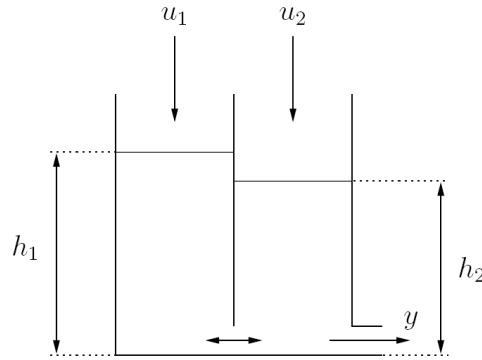

Figure 2.10 Water tank in Problem 2.7.
- 2.7 (*)** Consider a water tank with a separating wall. The wall has a hole at the bottom, as can be seen in Figure 2.10.